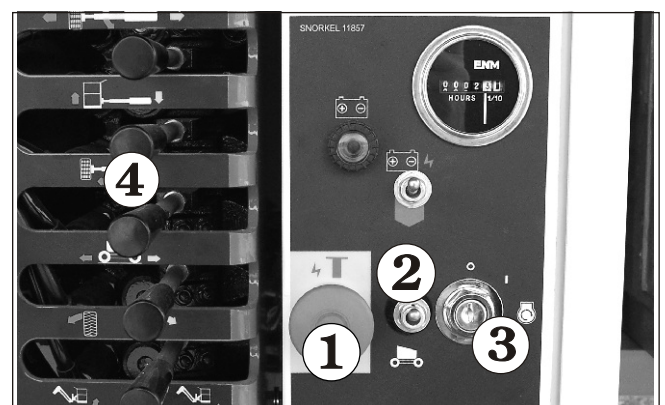

Figure 7.1—Ground Controls
Use the following procedure to operate boom or platform functions using the lower controls (refer to Figure 7.1).
1. At the lower controls, insert the key into the master switch^② (refer to Figure 7.1) and turn the switch on.
2. Switch to platform operation^③ (refer to Figure 7.1).